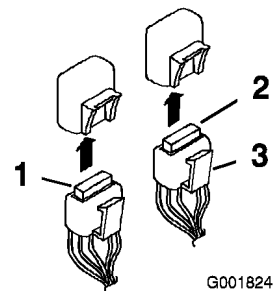

Figure 47
Fuse: Fuel Pump 10 amp, blade-type (Figure 47)
Fuse: Engine Fuse 20 amp, blade-type (Figure 47)
3. Locate fuses in the left rear of machine. Pull plastic clip out and down to gain access to fuses in holders (Figure 47).
4. To replace fuses pull out on the fuse to remove it (Figure 47).